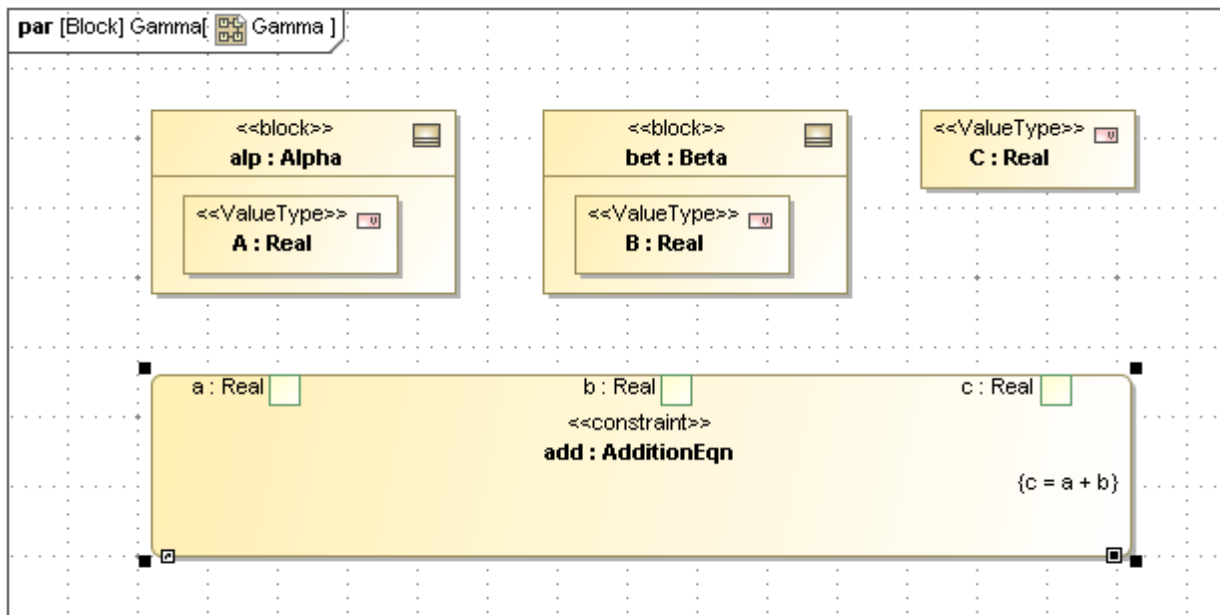

Figure 2.13 Parametric Diagram before Connectors added
- iii. Arrange them at top of block as shown in Figure 2.13.
- e. The parametric diagram should appear something like Figure 2.13.